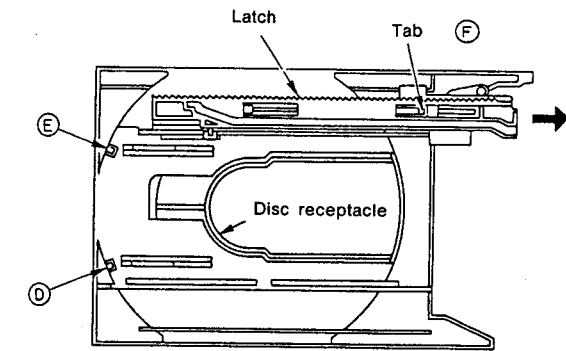

Fig. 4
**(3) Replacement of the disc holder (Fig. 4)**
With the tray removed, remove tabs (D) and (E) of the disc receptacle of Fig. 4, then lift up and off.
**(4) Replacement of the latches (Fig. 4)**
Set the latches into the condition of Fig. 4, lift the latch tab (F) up about 1 mm with a flat-bladed screwdriver and remove the rack in the direction of the arrow.